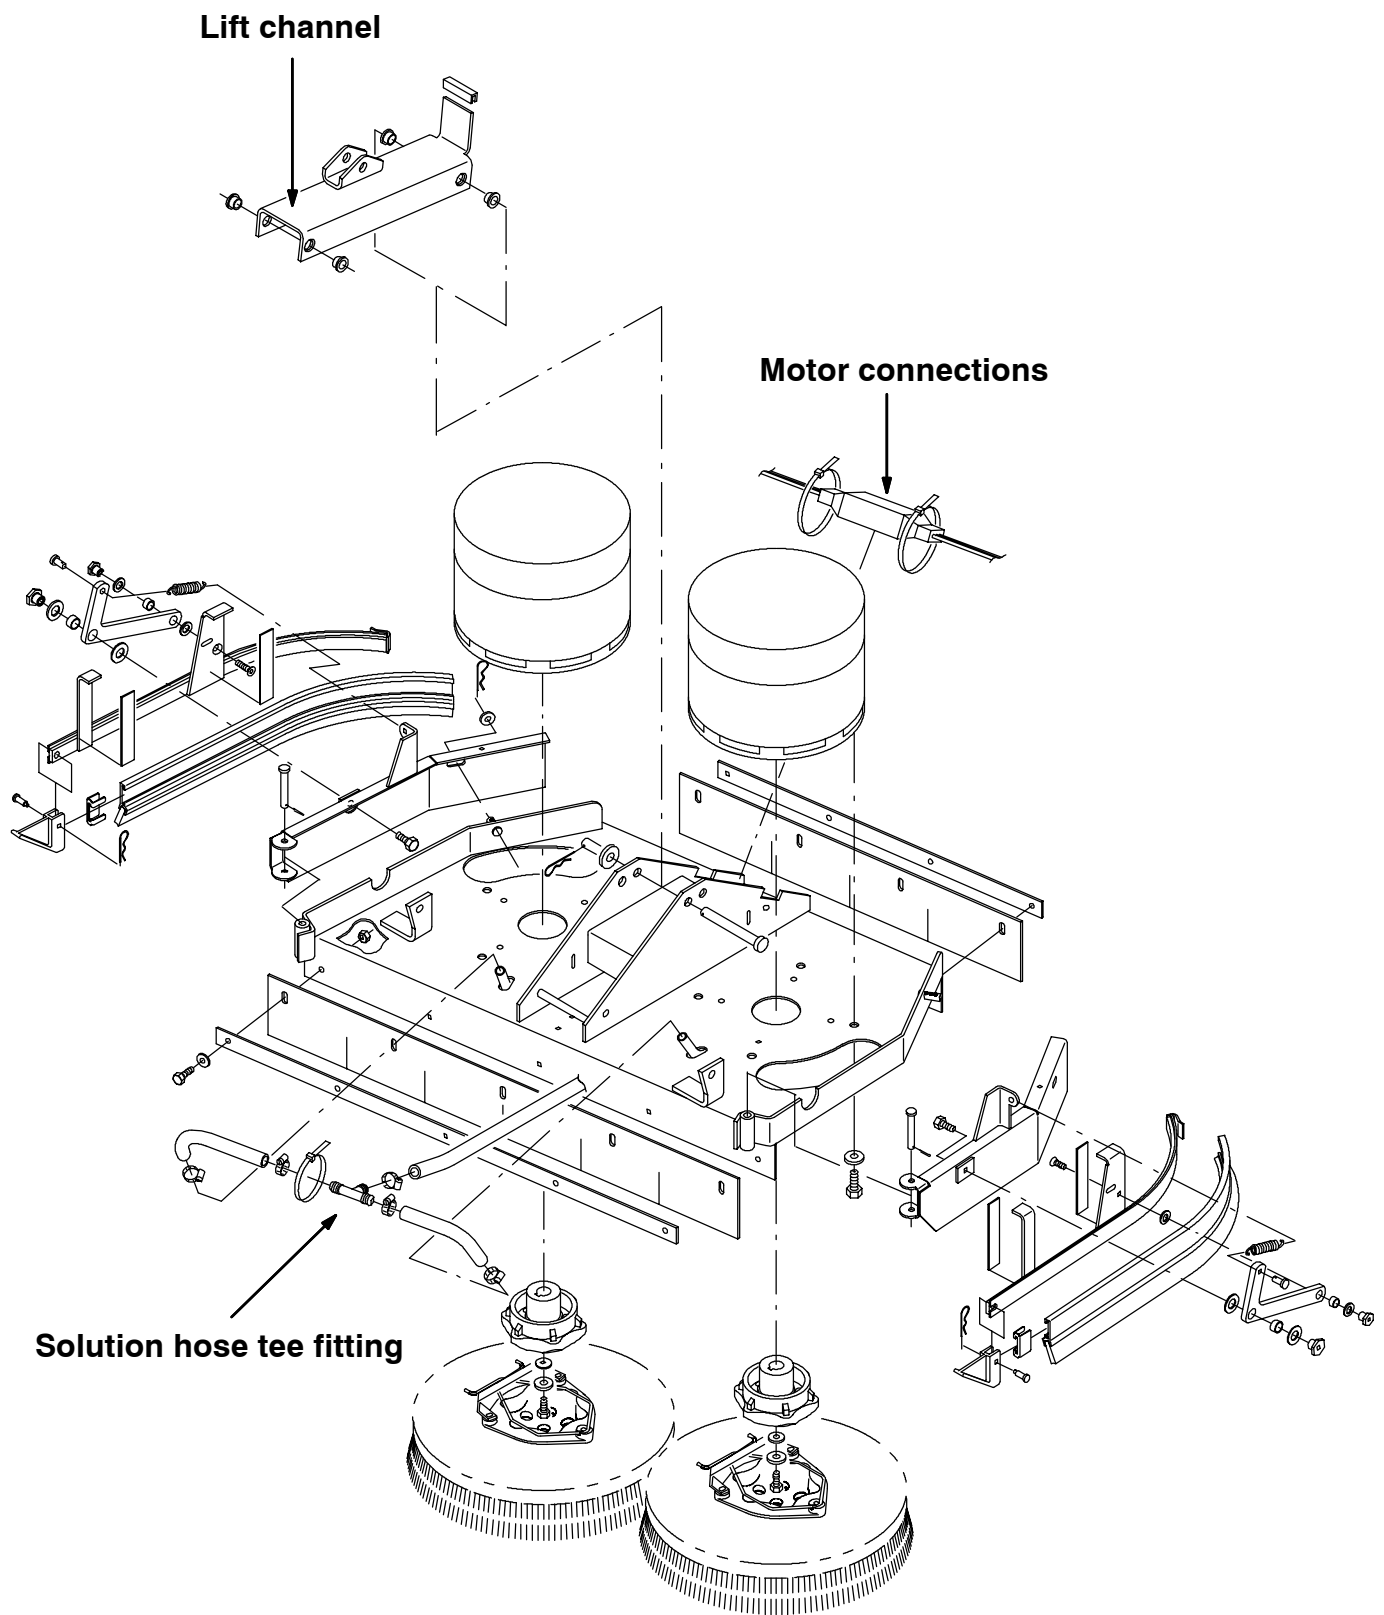

FIG. 3 - Disk Scrub Head Group
4. Disconnect the solution hose from the plastic tee fitting on the scrub head. (Refer to FIG. 3)
5. Disconnect the scrub brush motors from the main wiring harness. (Refer to FIG. 3 and 4)
4. Reconnect the solution hose to the tee fitting on the scrub head. (Refer to FIG 3)
5. Reconnect the scrub motors to the main wire harness. (Refer to FIG 3 and 4)